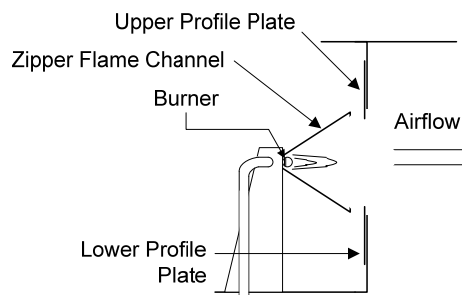

Figure 10. Burner Assembly
9. With the Gas Modulating Control Valve at "minimum," light the main burner by gradually opening the Main Burner Gas Shut-off valve. Adjust the Main Gas Regulator to provide the desired outlet pressure. A good minimum fire should provide a uniform blue flame across the entire burner, which is contained within the zipper flame channel (see Figure 10).